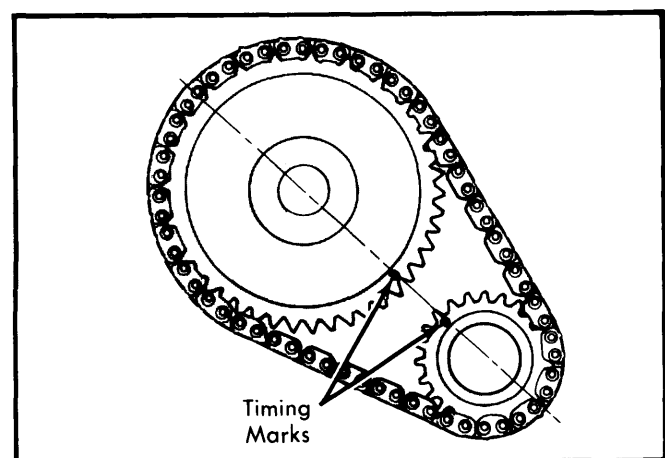

Fig. 7 Timing Chain and Crankshaft Sprocket Alignment
**Removal & Installation** — Remove camshaft sprocket attaching bolt and remove timing chain with camshaft sprocket. Turn crankshaft to line up centerline of camshaft and crankshaft with the timing mark on crankshaft sprocket. Install camshaft sprocket and timing chain. Line up timing marks on sprockets with centerline of crankshaft and camshaft. Tighten camshaft sprocket bolt. See Fig. 7.